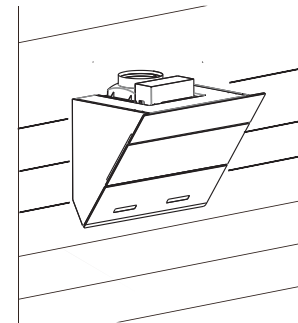

Fig.7
- Hang the hood on the wall bracket (Fig.7).